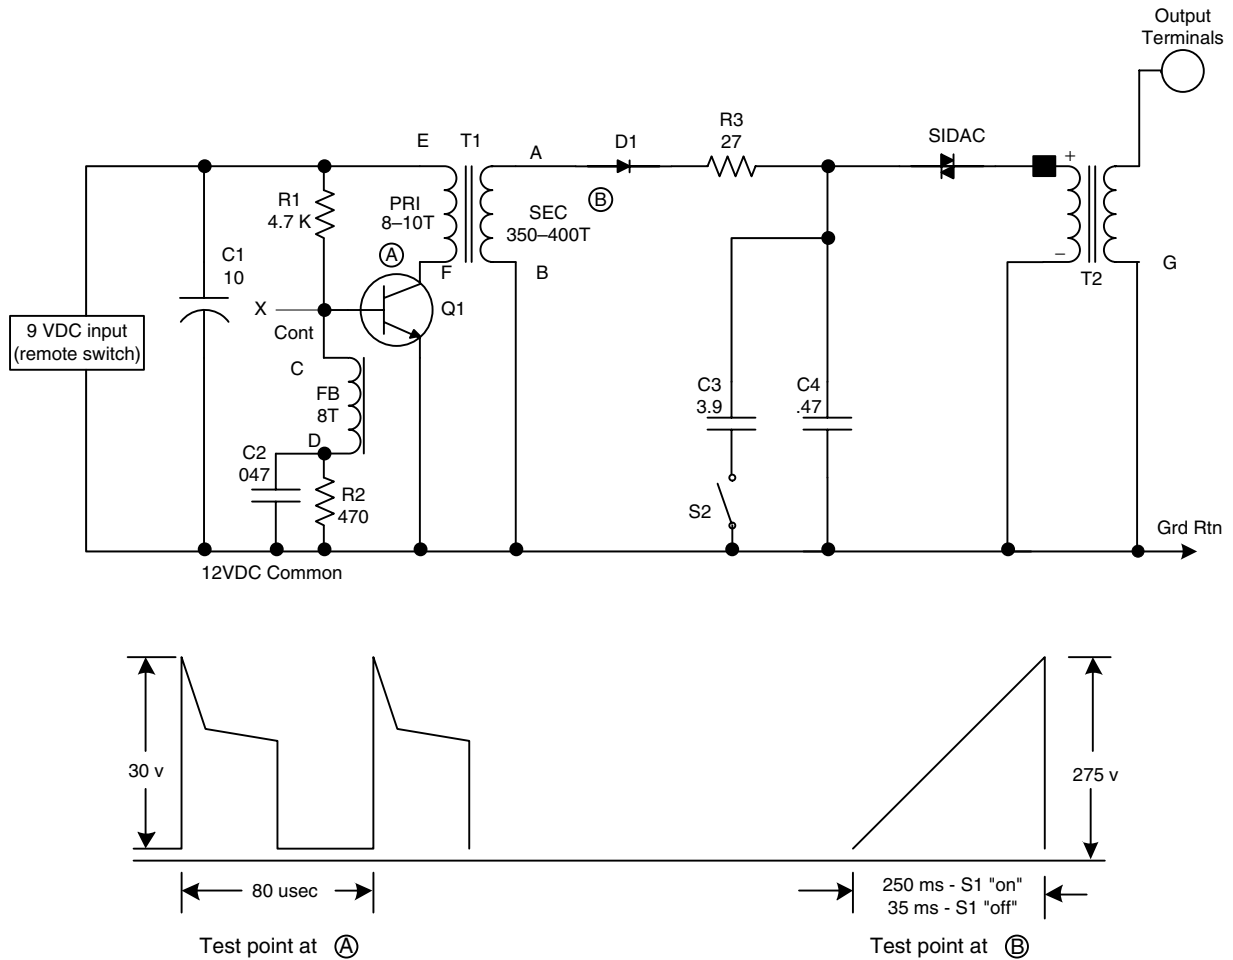

Figure 16-6 Igniter schematic.
Figure 16-6 is a schematic that shows a high-frequency self-oscillating inverter circuit comprised of switching transistor Q1 and step-up transformer T1 that produces high voltage and high frequency at the secondary winding. This HV alternating current (ac) is rectified by diode D1 and charges up storage capacitor C3 or C4 through isolation resistor R3. When this voltage charges up to the breakdown potential of silicon diode for alternating current (SIDAC) SID1, the energy stored in the capacitors is dumped into the primary of HV pulse transformer T2, producing a HV pulse at the output terminals.
The Remote Switch is then attached to the igniter, where the 25 ft of speaker wire can be either soldered directly to the circuit or attached with a jack (Fig. 16-6).
7. You may verify proper operation using a scope and noting the wave shapes, as shown Fig. 16-6.